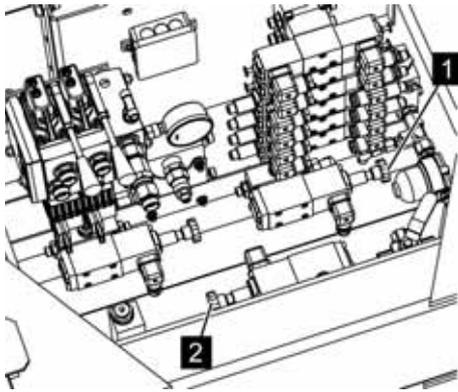

Fig. 119: Shuttle valve
7. ➤ After service operation, unlock the shuttle valves (Fig. 119/1 and 2).
- Make sure that for normal operation, the shuttle valves (Fig. 119/1 and 2) are completely unlocked.